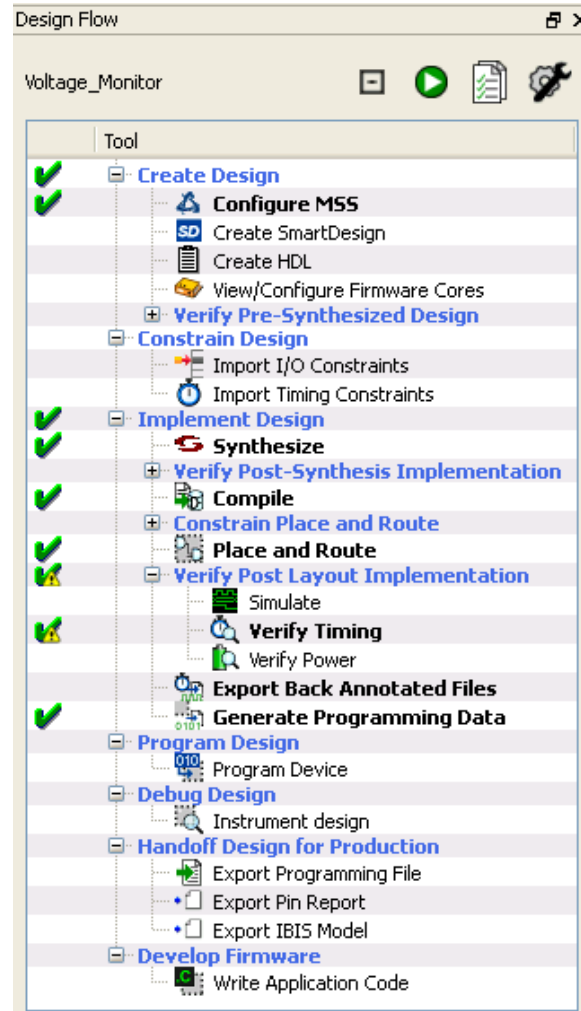

Figure 25 · Design Flow Window After Building the Project
2. The **Design Flow** window looks as shown in Figure 25 · .